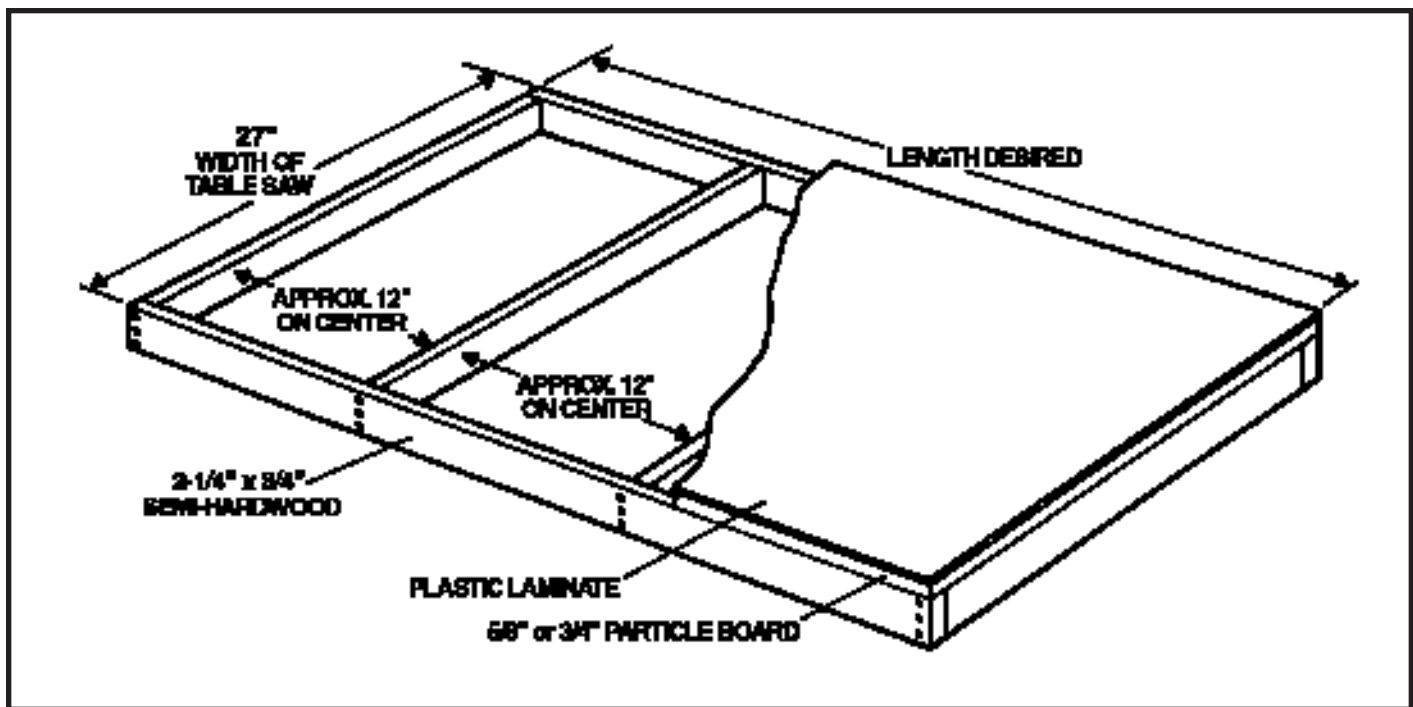

Fig. 9
7. If you did not purchase the accessory right extension table for use with your T-Square[®] fence, construct an extension table by following the dimensions shown in Fig. 9.